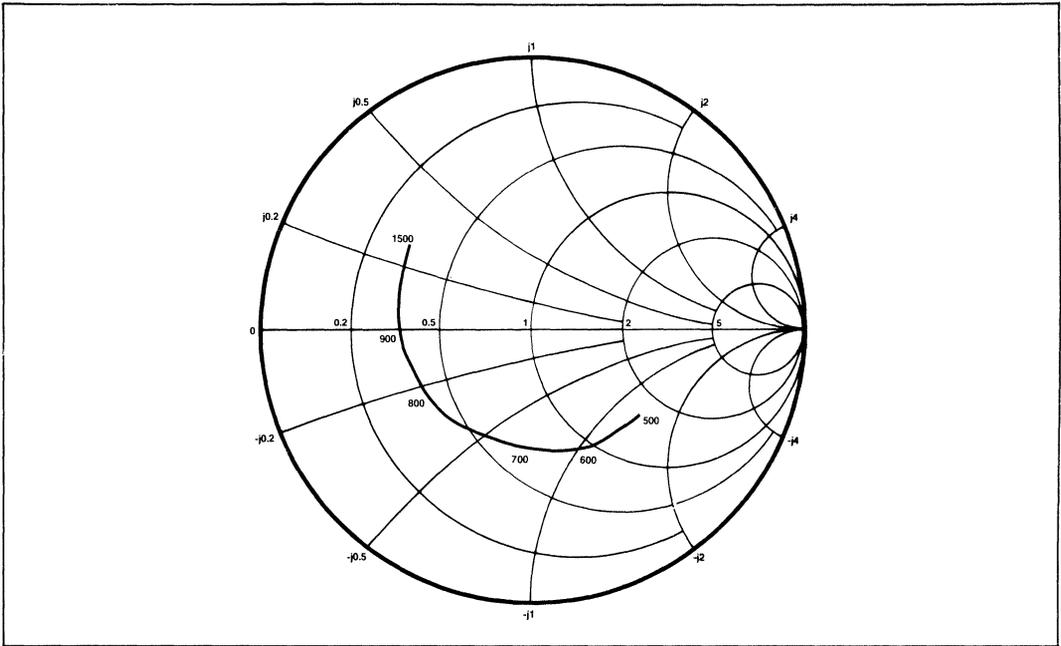

Fig.5 Typical input impedance. Test conditions: supply voltage -6.8V, ambient temperature 25° C, frequencies in MHz, impedances normalised to 50 ohms.
- Input impedance is a function of frequency. See Fig. 5.